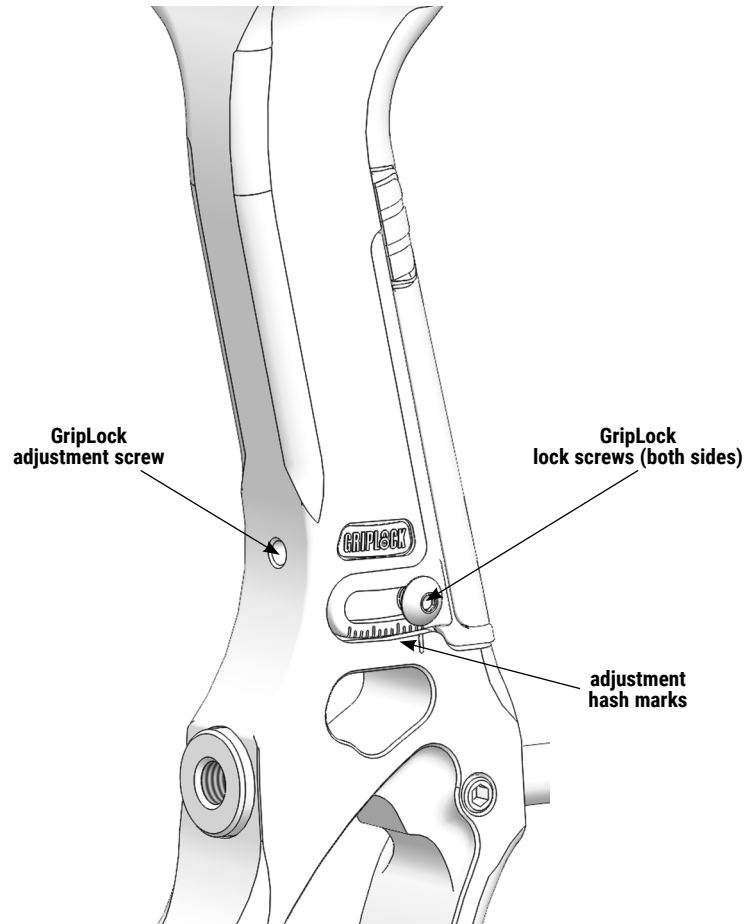

Figure 7: GripLock Adjustment
4. Note the adjustment hashmarks as shown in Figure 7. Each graduation corresponds to approximately 1 degree. This can be used to fine tune the angle of your GripLock grip.